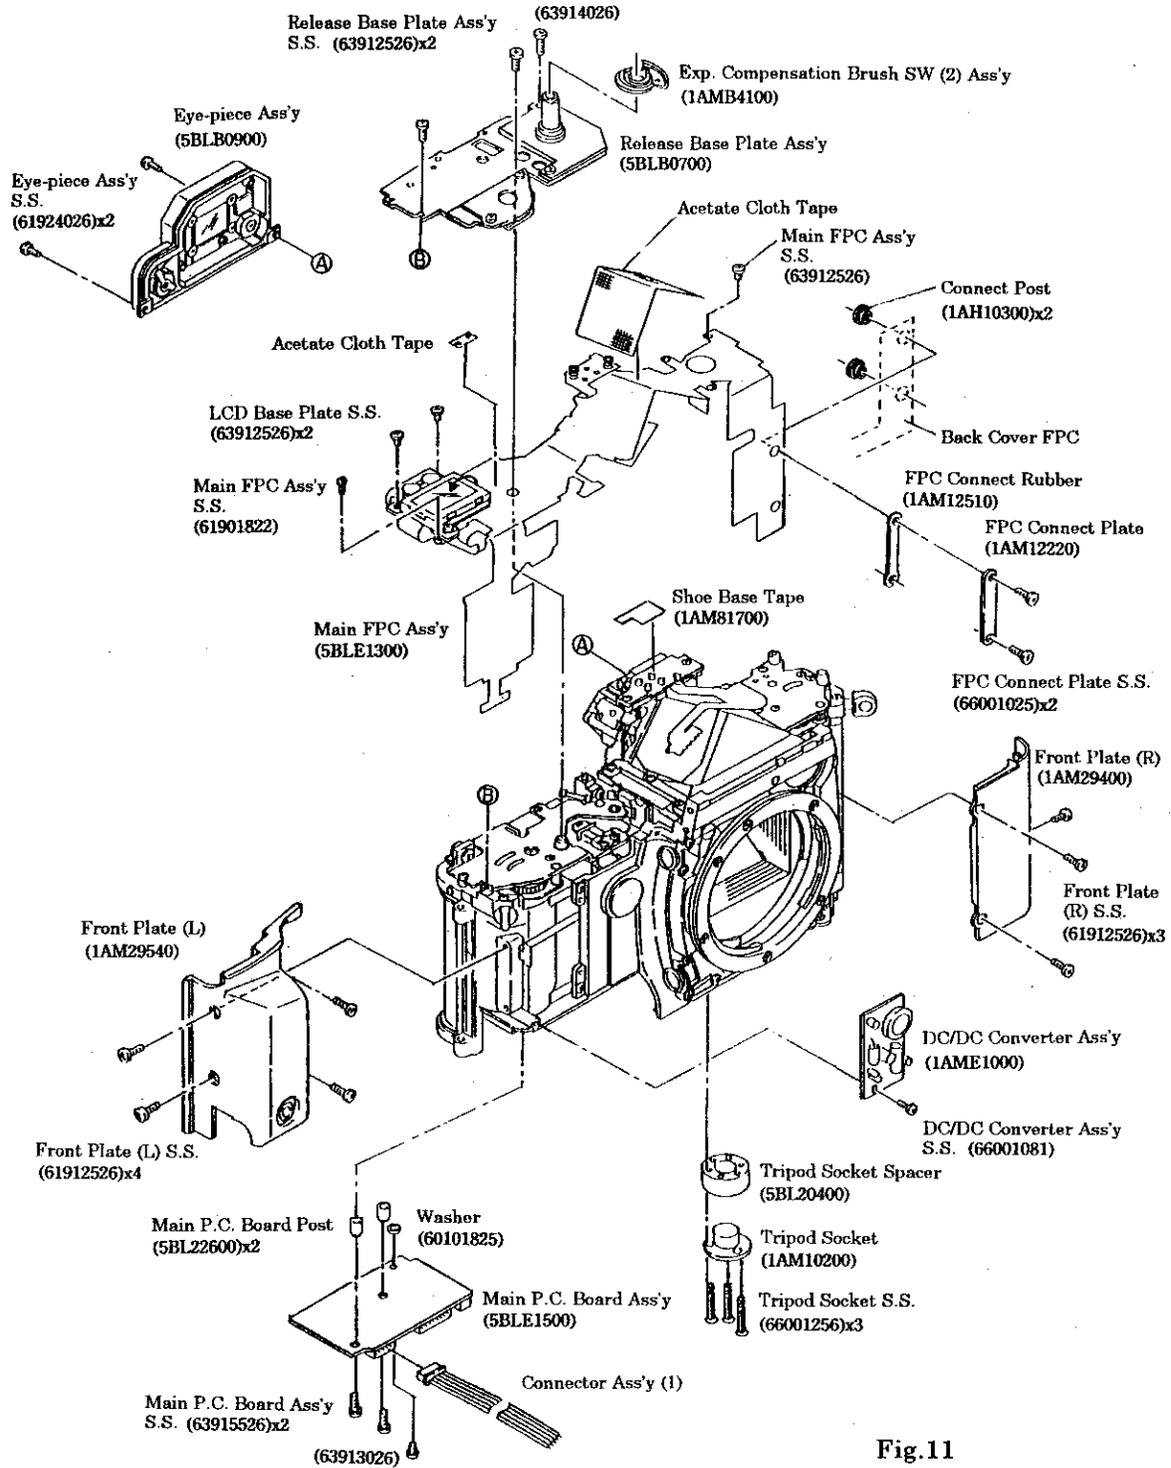

Fig.11
(See Figs. 11 and 13)
(See Figs. 11 and 12)
(Top of Body) (See Figs. 11 and 13)
**(Front Right of Body) (See Figs. 11, 12 and 13)**
**(Front Left of Body) (See Figs. 11, and 13)**
**(Top Right of Body) (See Figs. 11)**
**(Top Left of Body) (See Figs. 11)**